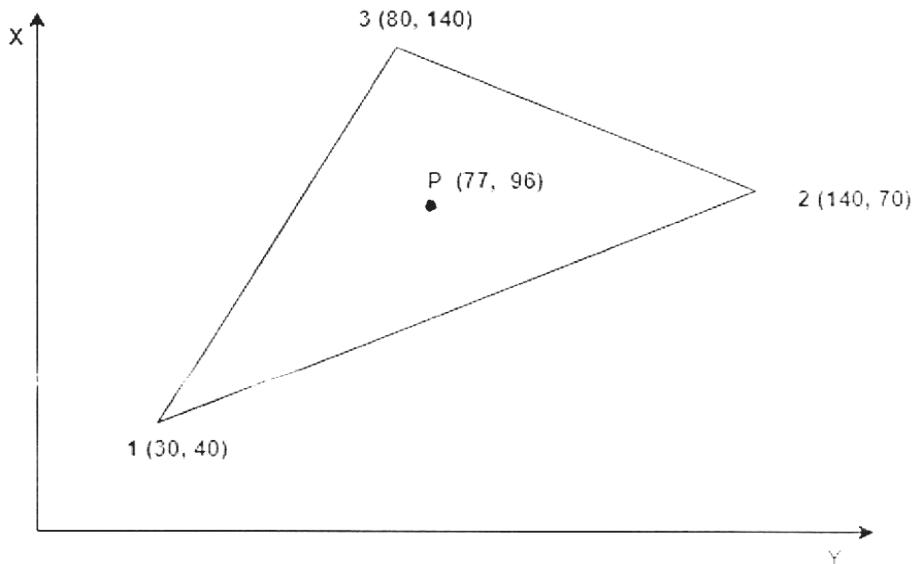

Fig. 1
- Q1) a)** In triangular element, shown in fig 1 the nodes 1, 2 and 3 have Cartesian coordinates: (30,40), (140,70), and (80,140) respectively. The displacement in mm at node 1, 2 and 3 are (0. 1, 0.5), (0.6,0.5) and (0.4, 0.3) respectively. The point P within the element has Cartesian coordinates (77, 96). For point P determine the i) natural coordinate ii) shape function iii) displacement) [12]